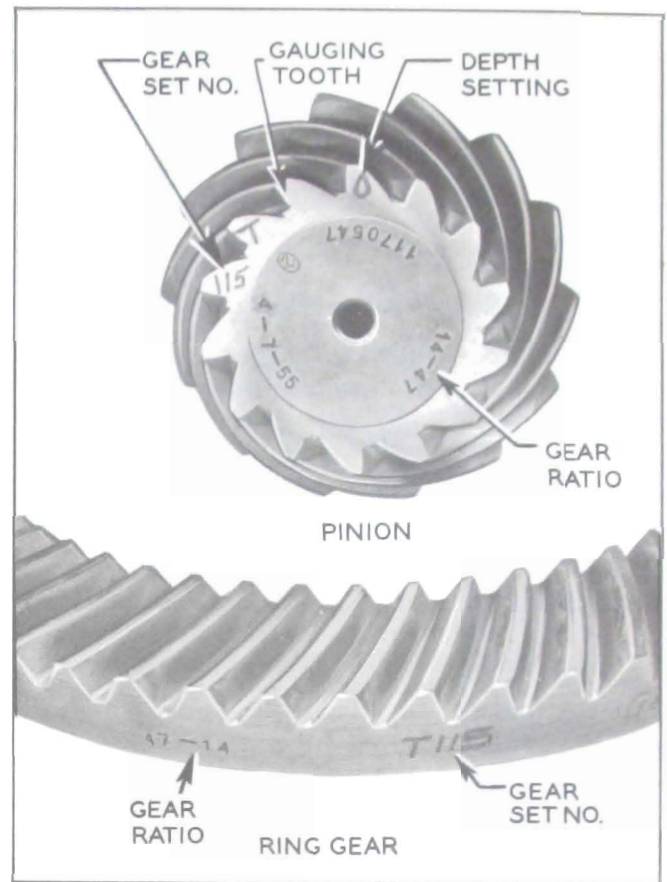

Figure 6-23—Ring and Pinion Gear Set Markings
All Buick ring and pinion gear sets are selectively matched for best operating position and proper tooth contact. After matching, a serial number is etched on one tooth of pinion and on rear face of gear to aid in keeping matched parts together. See Figure 6-23. Parts having different serial numbers must never be used together.
7. Rotate the pinion until the blank tooth between the matching number and the pinion setting mark is slightly counterclockwise of top center (at about 11 o'clock). This tooth is called the gauging tooth (Fig. 6-23) because it is used for locating and gauging during production and should therefore be used for gauging in service.
3. Check matching numbers on ring gear and pinion to make sure the two parts have not been mixed with another gear set. See Figure 6-23.